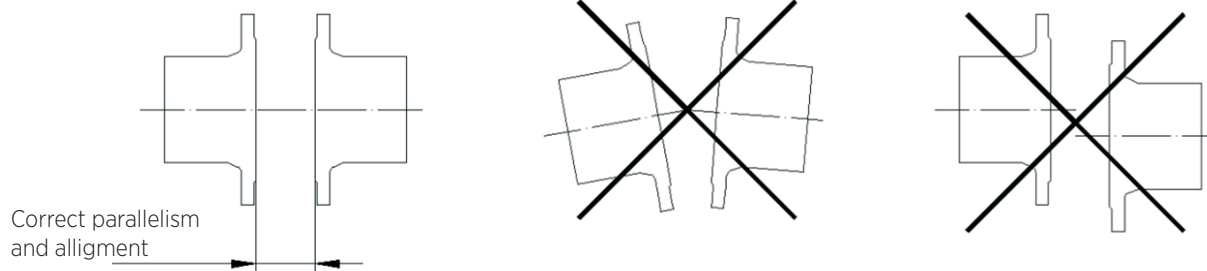

Fig. 4
Special care must be taken to maintain the correct distance (gap) between the flanges and ensure they are correctly aligned and parallel (fig. 4). The incorrect position or installation of the flanges can cause deformations on the valve's body which can cause difficulties during operation.
- When the valve has a counterweight, we can assemble the valve in any of the 3 positions indicated in fig. 4, but the counterweight will always turn +45° to -45° to the horizontal plane, if necessary, we will move it.